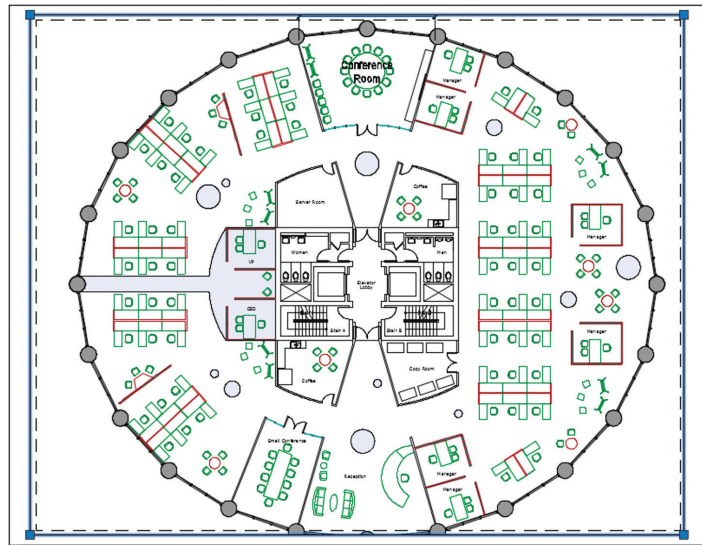

FIGURE 13.16 Adjusting the viewport in an attempt to display the entire floor plan at 1/16" scale (or 1:200 in metric)
5. Viewport frames exist in paper space only. Click the single viewport frame to select it. Select the upper-right grip and move it upward and to the right until it is close to the upper-right corner of the paper but inside the plot device limits. Click the lower-left grip and move it to the lower-left corner inside the device limits (see Figure 13.16). Press Esc to deselect the viewport.